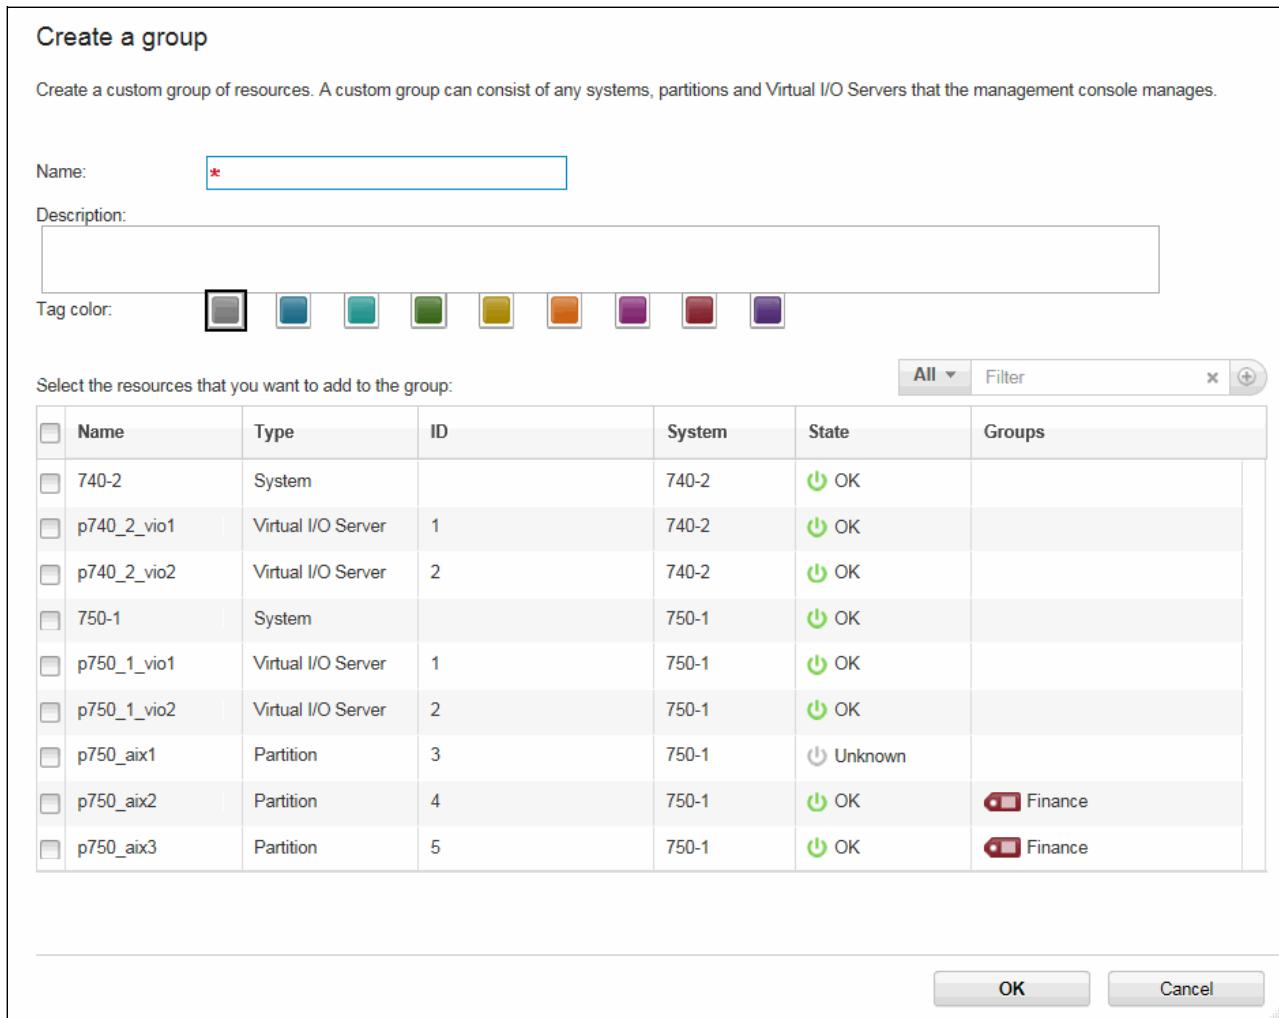

Figure 5-52 Create a group window
- ▶ Click **Create a Group** to open the Create a group window (Figure 5-52 on page 339).